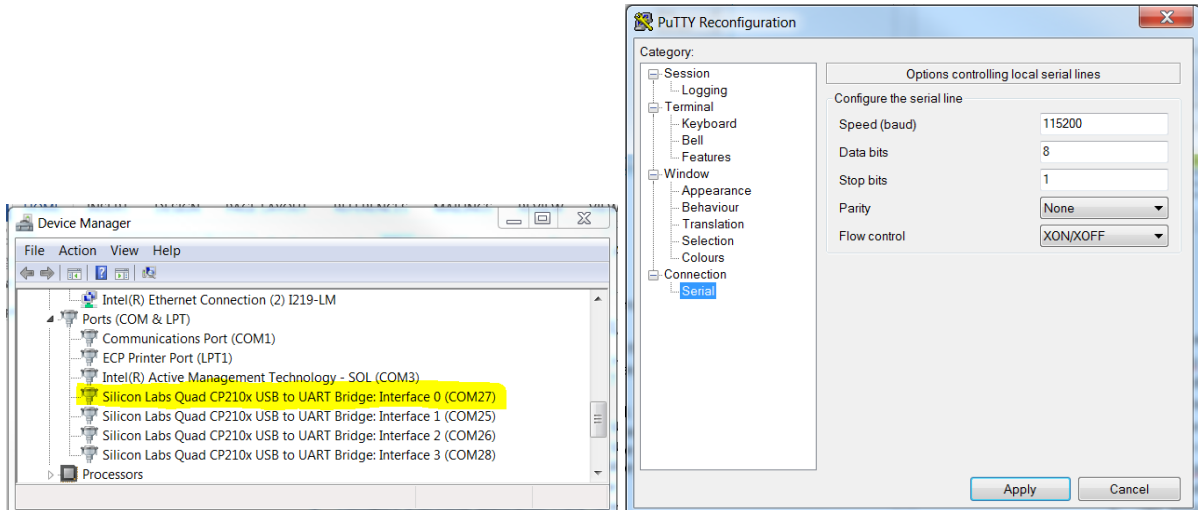

Figure 8 Status console UART Setup
- Configure a terminal application (Tera Term, Hyperterm, PuTTY etc) to communicate with the COM port assigned to the Silicon Labs CP210x Uart Bridge interface 0 as shown in Figure 8.